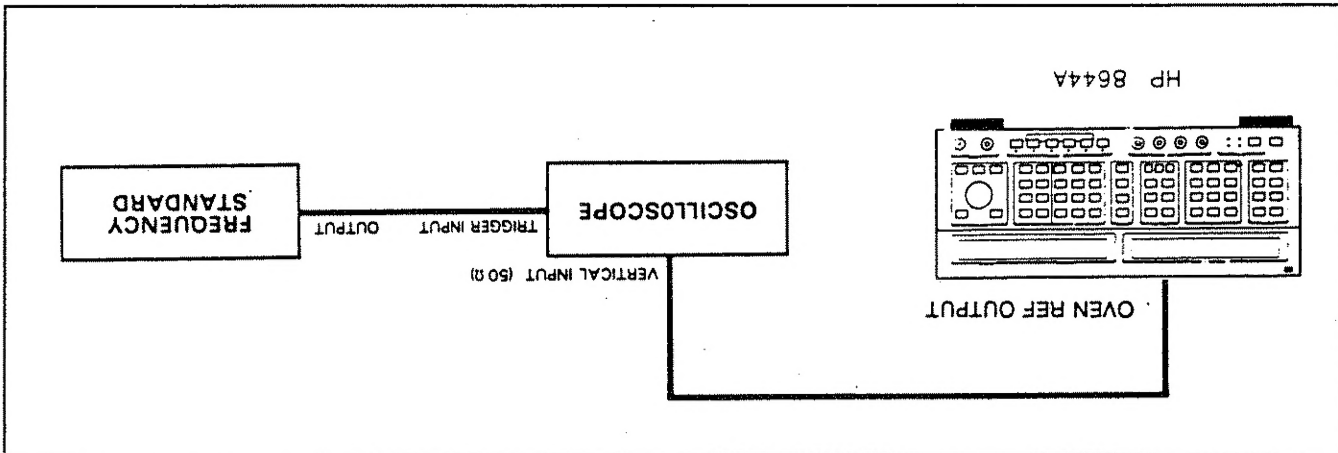

Figure 4-2.
3. Connect the equipment as shown in figure 4-2.